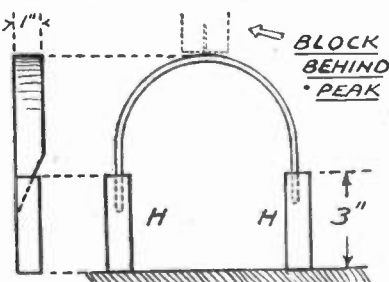

Fig. 2—How the porch is constructed
photograph and Fig. 2. This is made up of the two uprights (H) and a 12 in. length of pliable basket wood. The latter is bent round into a semi-circle and its ends inserted in slots taken out of the back tops of the uprights with a